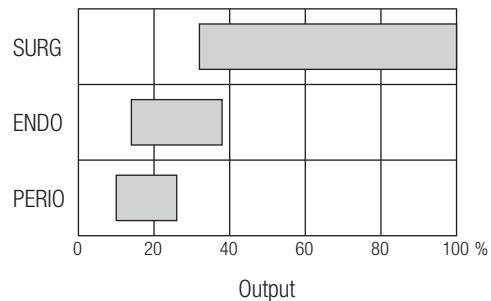

Fig.24
* See Fig. 24 for a comparison of outputs of different modes.